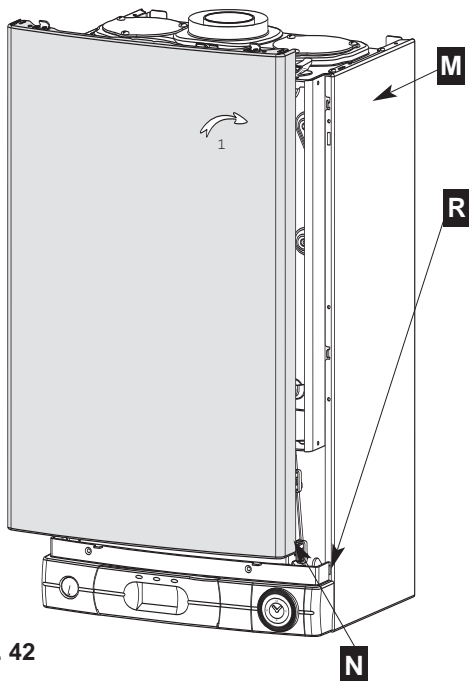

Fig. 42
- Engage hooks **N** on the casing in notches **R** on the side panels **M** operation (Fig. 42)